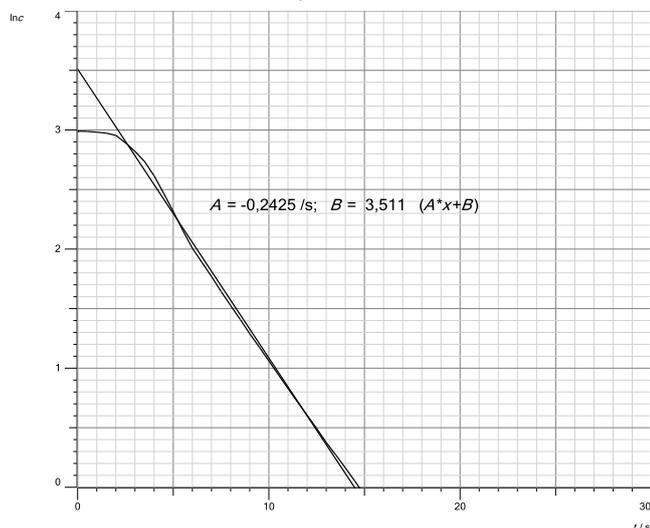

Fig. 4: Test for first order. Plot of the logarithm of c ($\ln c$) against time.
The reaction order is also determined graphically. The course of the reaction is presented in such a way that it forms a straight line. A first-order reaction can be linearised by plotting the natural logarithm of c ($\ln c$) against the time. A diagram "Test for first order" has been prepared in CASSY Lab for this (see Fig. 4).
The reaction of malachite green (MG) and sodium hydroxide solution follows first-order kinetics. Only a linear course is shown here (see Fig. 4). The slope of the straight line is determined by placing a line of best fit (f(x) Fit Function → Best-fit Straight Line). The rate constant can be deter-